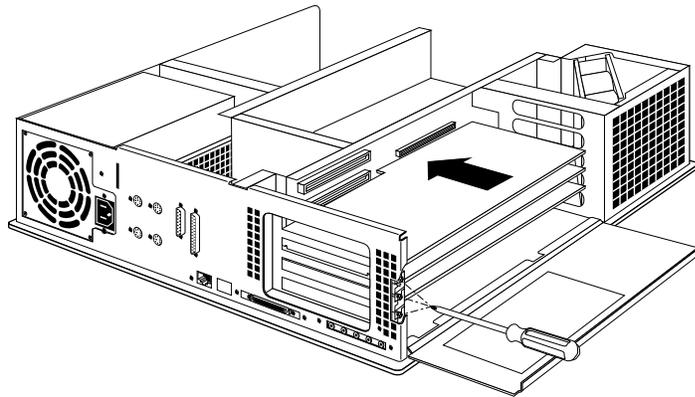

Figure 16 Replacing the graphics board set in the Indigo² chassis.
- Align the metal extensions on the left of the board set with the slots on the chassis. At the same time align the right edge of the board set with the metal grooves on the right of the chassis, as shown in Figure 16.